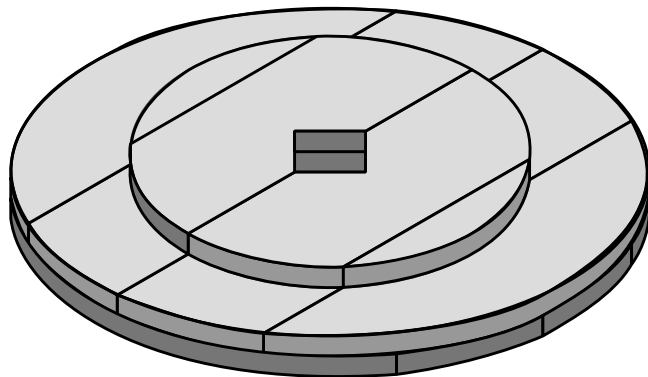

Figure 3: half of one wheel.
- 7) Cut out the segments. For each wheel you will need to make two of the discs shown in Figure 3. Each disc is three planks thick as you can see. Make sure that the tyre is a snug fit on the single thickness small disc.